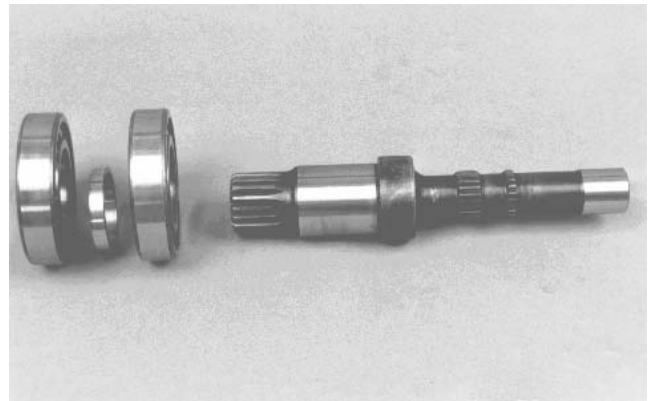

Figure 49
13. Press motor shaft out of the bearings and spacer (Fig. 49).